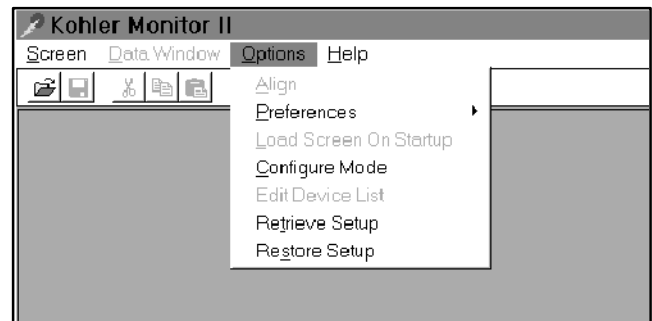

Figure 2-11 Options Menu
- Verify that the software is not in the configuration mode by making sure that Configure Mode in the Options menu is not checked. Select Configure Mode and left-click to remove the checkmark. See Figure 2-11.